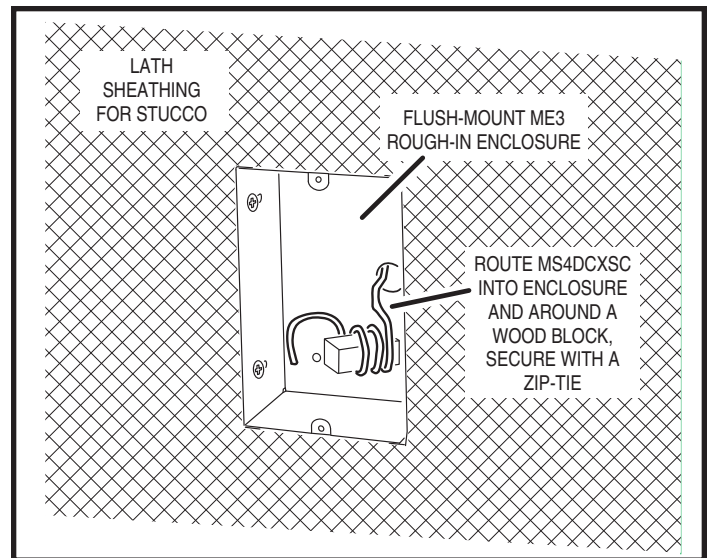

Figure 10. Door Station Rough-in
3. Depending on the type of construction, the enclosure can be screwed or nailed to a stud, or in masonry applications just let the enclosure hang on the cable so the brick mason can flush and level it. For wood, vinyl, or aluminum siding construction, use a surface-mount housing for the Door Station. Two surface-mount intercom Door Station enclosure models are available: Model DS3BXB (black) and DS3BXW (white). Surface-mount enclosures attach to the finished wall using galvanized screws (see Figure 10).